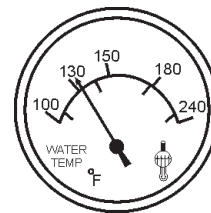

Figure 47. Coolant Temperature Gauge
- The **coolant temperature gauge** (Figure 47) will indicate the coolant temperature. Under normal operating conditions the coolant temperature should be between 165°~203°F (74°~95°C) (**Green Zone**).